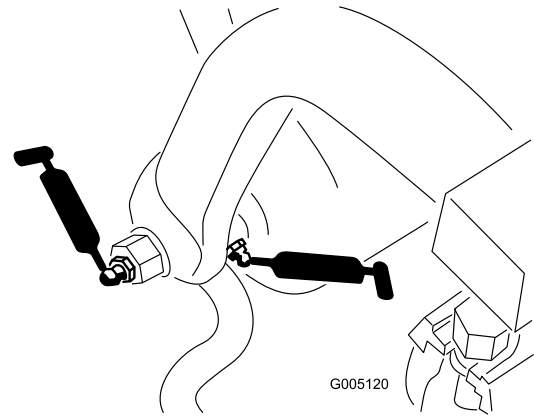

Figure 34
- Pull-frame shaft and roller (12) (Figure 34)